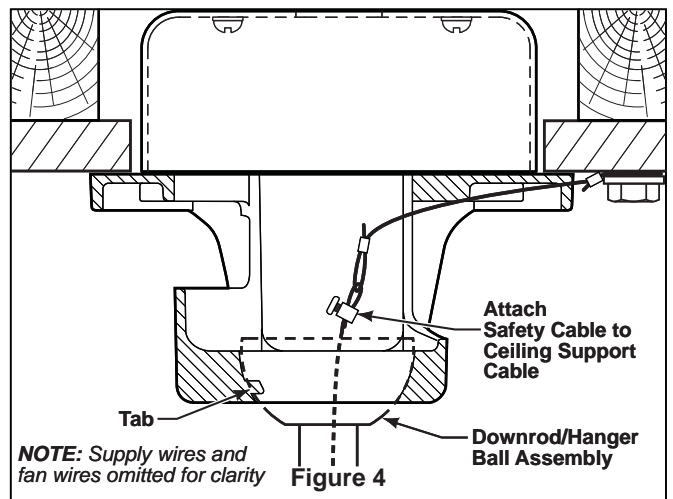

Figure 4
4. Remove the hairpin clip and clevis pin from the bottom of the downrod. Retain the pin and clip for reinstallation in Step 6. (Figure 4)
4. Carefully lift the fan and seat the downrod/hanger ball assembly on the hanger bracket that was just attached to the ceiling joist. Be sure the groove in the ball is lined up with tab on the hanger bracket. (Figure 4)
5. Attach the safety cable to ceiling support cable. Slide cable clamp onto safety cable (from fan). Place the end of cable through the loop of ceiling support cable. Pull as much cable through loop as possible. Feed end of cable into clamp hole and firmly tighten screw (Figure 4). Cut off excess safety cable.